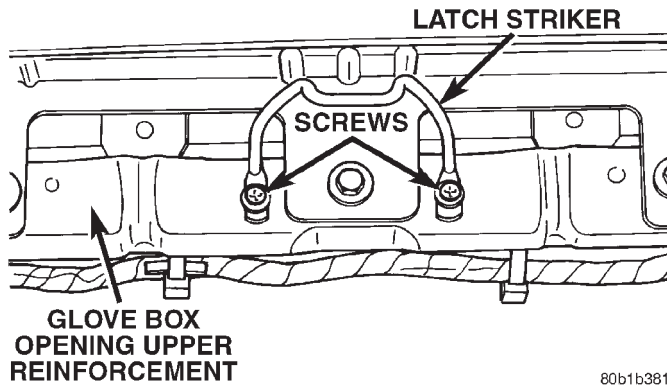

Fig. 23 Glove Box Latch Striker Remove/Install
- (1) Disconnect and isolate the battery negative cable.
- (2) Remove the trim strip from the upper glove box opening. See Glove Box Opening Upper Trim Strip in the Removal and Installation section of this group for the procedures.
- (3) Remove the two screws that secure the latch striker to the glove box opening upper reinforcement (Fig. 23).
- (4) Reverse the removal procedures to install. Tighten the mounting screws to 2.2 N·m (20 in. lbs.).